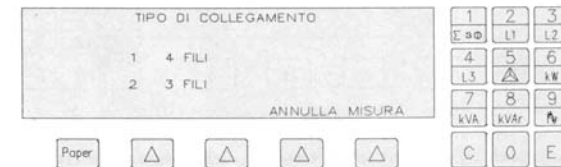

Fig. 3.19
-The [O] key on the keyboard is pressed for access to the SET-UP display page. -Key [ 1 ] on the keyboard is pressed for the display page for selection of the type of circuit connection required (see Fig. 3.19) The choice is between a star connection (4-wire three phase systems) and delta connection (3-wire three phase systems).